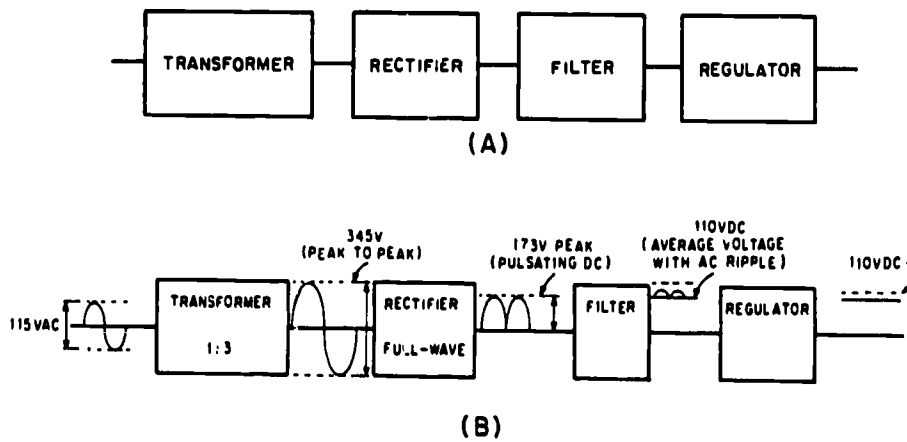

Fig 4-1. Block diagram of a basic power supply.
View (A) of figure 4-1 shows the block diagram of a basic power supply. Most power supplies are made up of four basic sections: a TRANSFORMER, a RECTIFIER, a FILTER, and a REGULATOR.
As illustrated in view (B) of figure 4-1, the first section is the transformer. The TRANSFORMER steps up or steps down the input line voltage and isolates the power supply from the power line. The RECTIFIER section converts the a.c. input signal to a pulsating d.c. voltage. However, you will see later that the pulsating d.c. is not desirable. For this reason, a FILTER section is used to convert pulsating d.c. to a purer, more desirable form of d.c. voltage.
Now that you know what each section does, let's trace an a.c. signal through the power supply. At this point you need to see how this signal is altered within each section of the power supply. Later on you will see how these changes take place. In view (B) of figure 4-1, an input signal of 115 volts a.c. is applied to the primary of the transformer. The transformer is a step-up transformer with a turns ratio of 1:3. You can calculate the output for this transformer by multiplying the input voltage by the ratio of turns in the primary to the ratio of turns in the secondary; therefore, $115 \text{ volts a.c.} \times 3 = 345 \text{ volts a.c.}$ (peak-to-peak) at the output. Because each diode in the rectifier section conducts for 180 degrees of the 360-degree input, the output of the rectifier will be one-half, or approximately 173 volts of pulsating d.c. The filter section, a network of resistors, capacitors, or inductors, controls the rise and fall time of the varying signal; consequently, the signal remains at a more constant d.c. level. You will see the filter process more clearly in the discussion of the actual filter circuits. The output of the filter is a signal of 110 volts d.c., with a.c. ripple riding on the d.c. The reason for the lower voltage (average voltage) will be explained later. The regulator maintains its output at a constant 110-volt d.c. level, which is used by the electronic equipment (more commonly called the load).